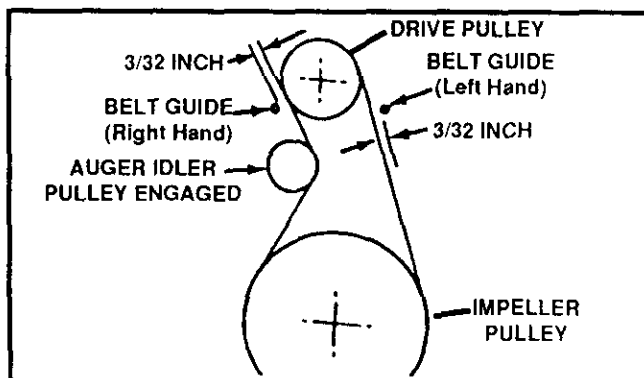

FIG. 9
- Loosen nut on auger idler pulley (See FIG. 9) and pull idler pulley away from belt.
- Measure the distance between the belt guides and the belt (See FIG. 9 in this section). The distance should be $\frac{3}{32}$ " for each guide.